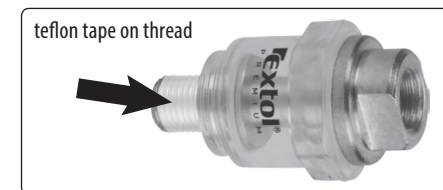

Fig. 5
- ➔ Tightly wind Teflon tape on to the thread (e.g. Extol ord. no. 47532) and then gently push it against the thread, see fig. 5.